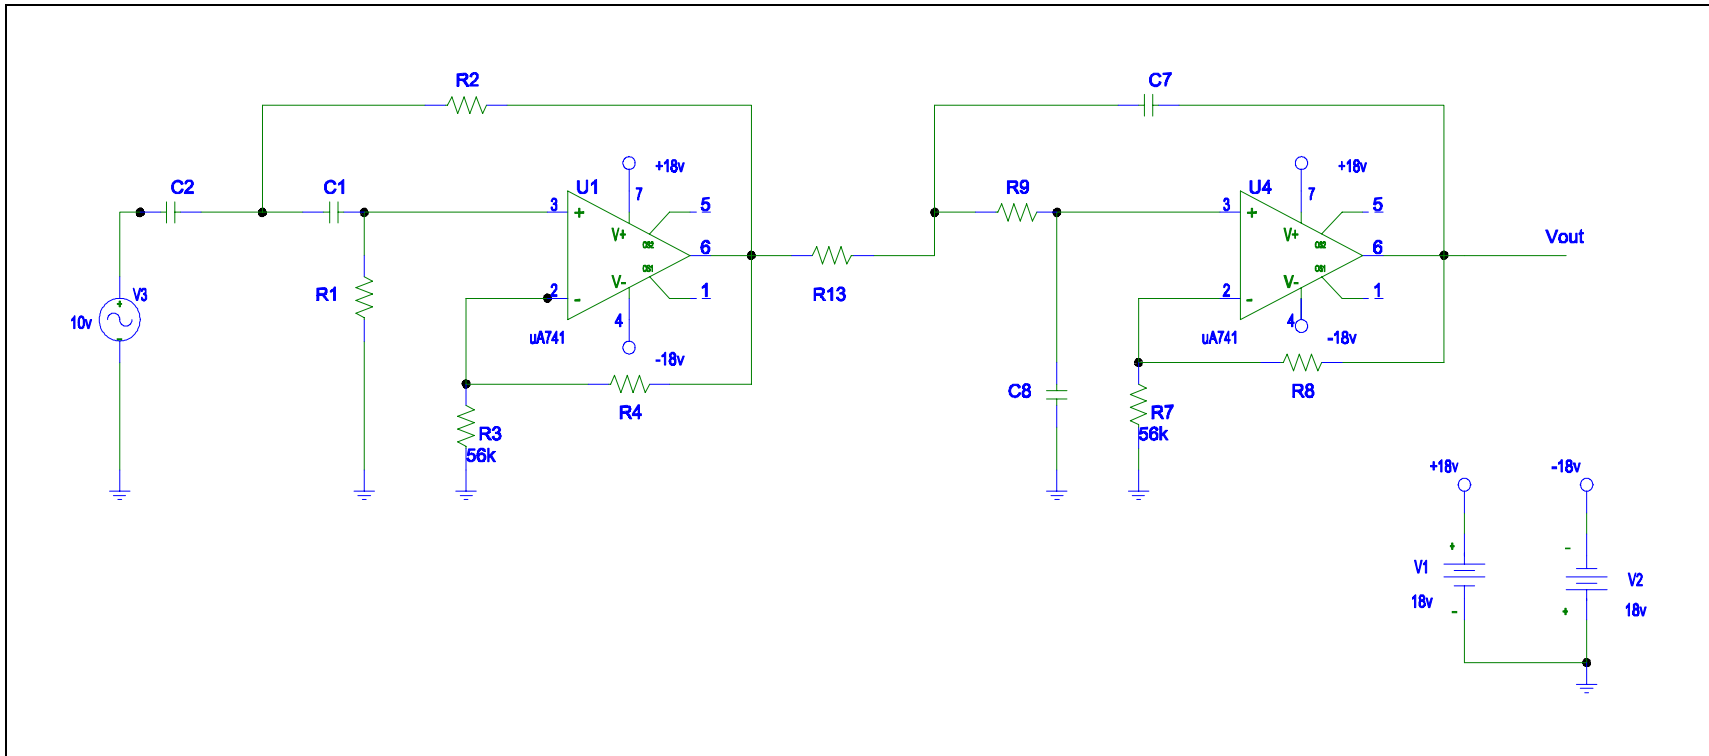

Figure 3. Band Pass Filter from Cascaded Low Pass and High Pass Filters
A band-pass filter can be created by cascading a low-pass filter and a high pass filter as shown in Figure 3.
3. Build the circuit shown in Figure 3 before coming to your lab session this week.